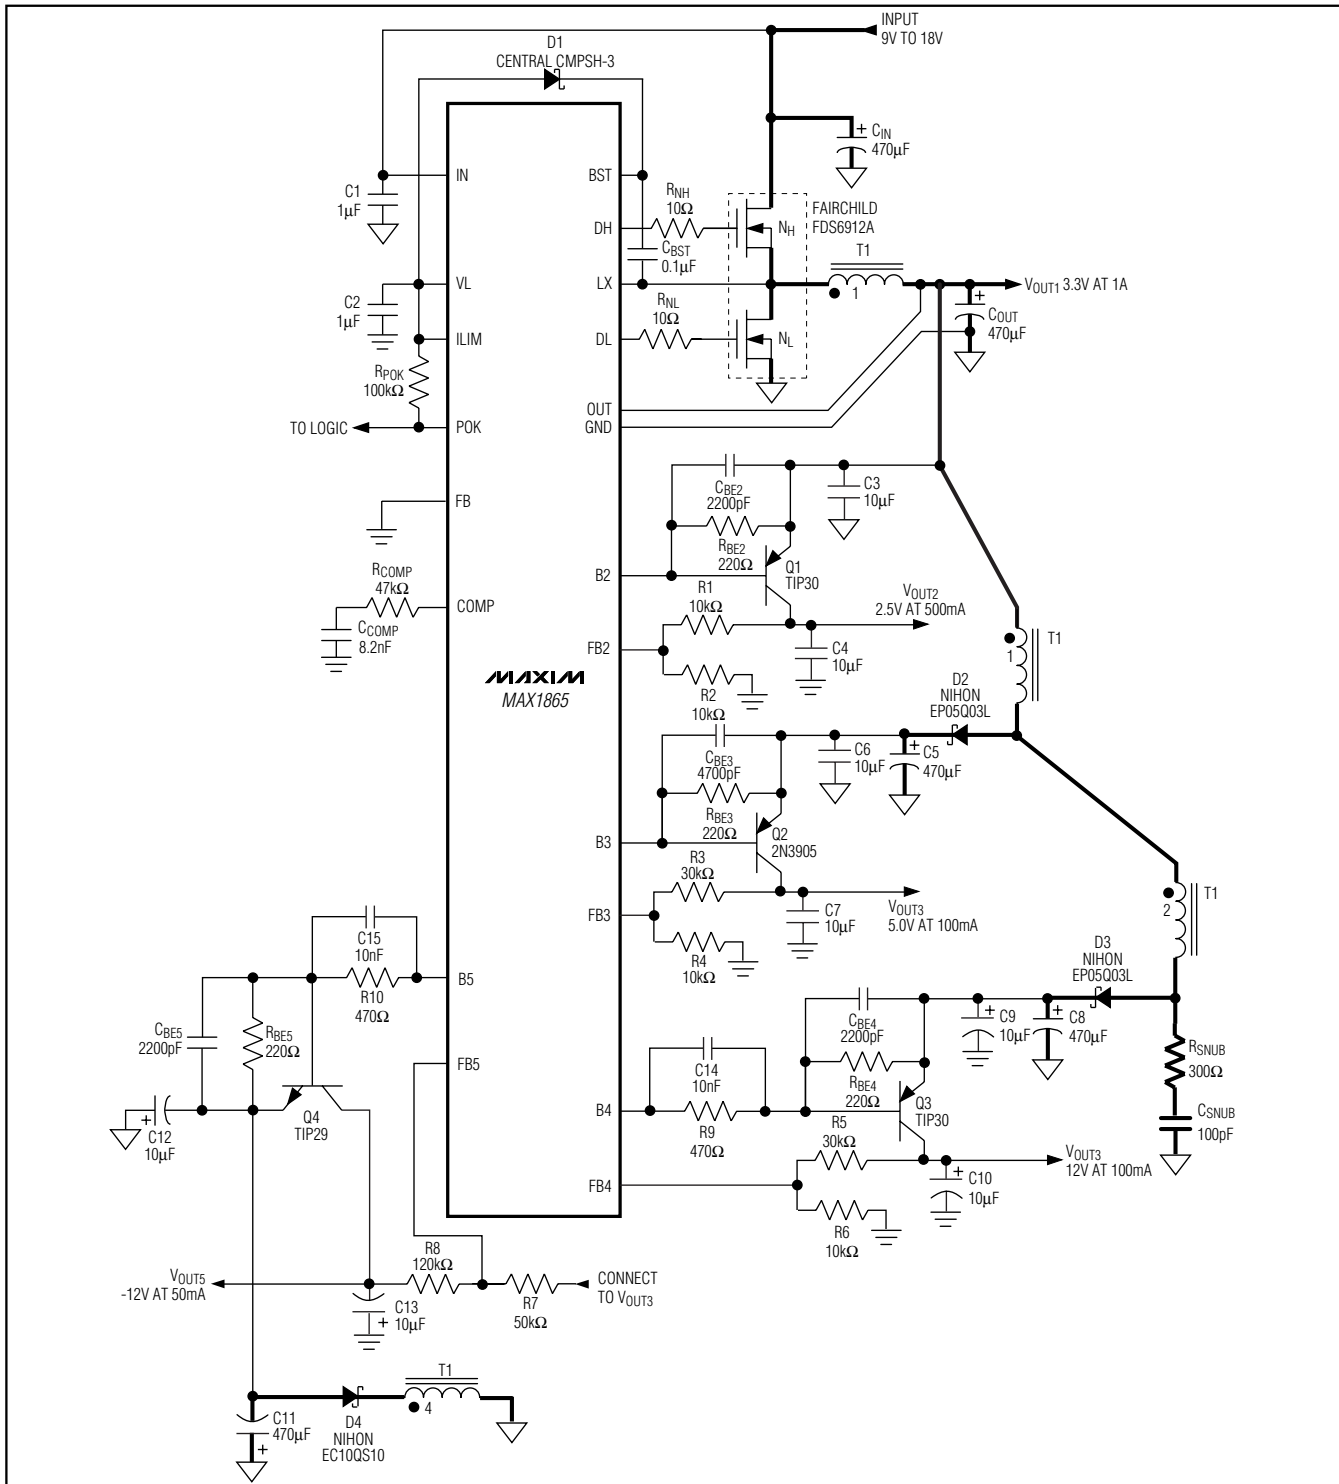

Figure 6. Standard MAX1865 Application Circuit
The MAX1864/MAX1865's positive linear regulator output voltages are set by connecting a voltage-divider from the output to FB_- to GND (Figure 6). Select R_4 in the $5k\Omega$ to $50k\Omega$ range. Calculate R_3 with the following equation:
The MAX1865's negative output voltage is set by connecting a voltage-divider from the output to FB_5 to a positive voltage reference (Figure 6). Select R_6 in the $5k\Omega$ to $50k\Omega$ range. Calculate R_5 with the following equation:
In systems where the step-down controller's output is not the highest voltage, a transformer may be used to provide additional postregulated, high-voltage outputs. The transformer generates unregulated, high-voltage supplies that power the positive and negative linear regulators. These unregulated supply voltages must be high enough to keep the pass transistors from saturating. For positive output voltages, connect the transformer as shown in figure 6 where the minimum turns ratio (N) is determined by:
only), connect the transformer as shown in Figure 6, where the minimum turns ratio is determined by:
The MAX1864/MAX1865 use a current-mode control scheme that senses the current across the high-side MOSFET (N_H). Immediately after the high-side MOSFET has turned on, the MAX1864/MAX1865 use a 60ns current-sense blanking period to minimize noise sensitivity. When the MOSFET turns on, however, the transformer's secondary inductance and the diode's parasitic capacitance form a resonant circuit that causes ringing. Reflected back through the transformer to the primary side, these oscillations across the high-side MOSFET may last longer than the blanking period. A series RC snubber circuit at the diode (Figure 6) increases the damping factor, allowing the ringing to settle quickly. Applications with multiple transformer windings require only one snubber circuit on the highest output voltage. Applications with low turn ratios (1:1), such as the MAX1864 typical application circuit (Figure 1), may not require a snubber circuit.
For the EC10QS10 Nihon diode used in figure 6, the capacitance is roughly 15pF. The output snubber must only dampen the ringing, so the initial turn-on spike that occurs during the blanking period remains preset. A 100pF capacitor works well in most applications; larger capacitance values require more charge, thereby increasing the power dissipation.
The snubber's time constant (t_{SNUB}) must be smaller than the 100ns blanking time. A typical RC time constant of approximately 30ns was chosen for Figure 6: